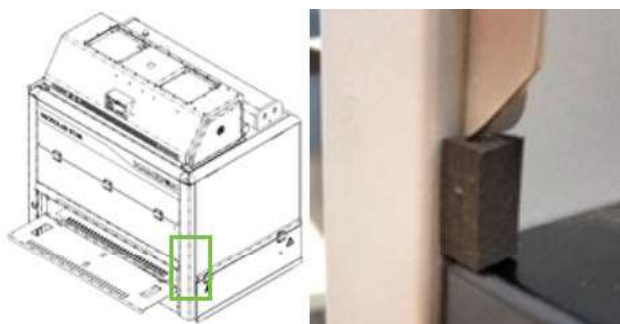

Figure A-15: Applying adhesive strip
16. Apply a 3/4" adhesive strip to the inside of the strut shown on the instrument in Figure A-15.